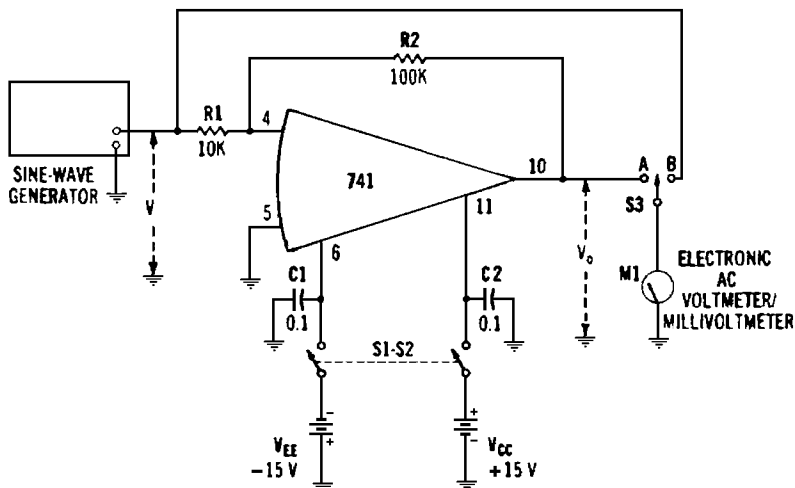

Fig. 2-14. Closed-loop ac voltage gain.
### Required Equipment (Fig. 2-14)
1. With switch S1-S2 open, switch S3 in position B, and the generator off and its attenuator set to zero, set up the test circuit as shown in Fig. 2-14.